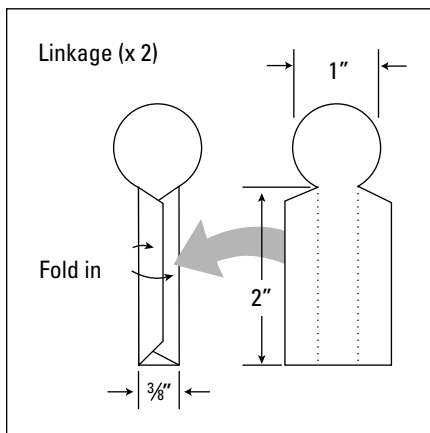

Figure 7-16:
- 7. Make the linkages (see Figure 7-16).**